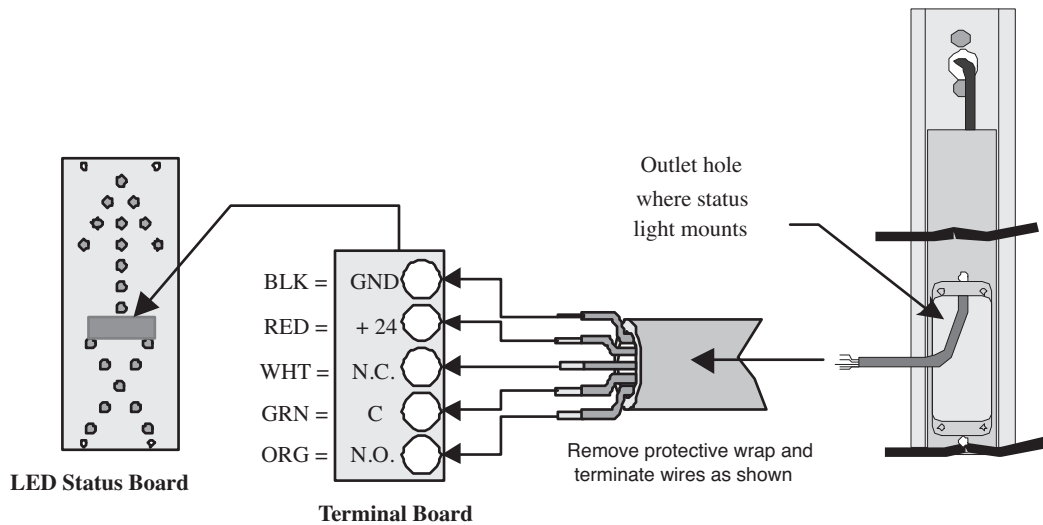

Figure 23
- Connect the wires to the terminal block on the Status Light Board as shown in **Figure 23**.